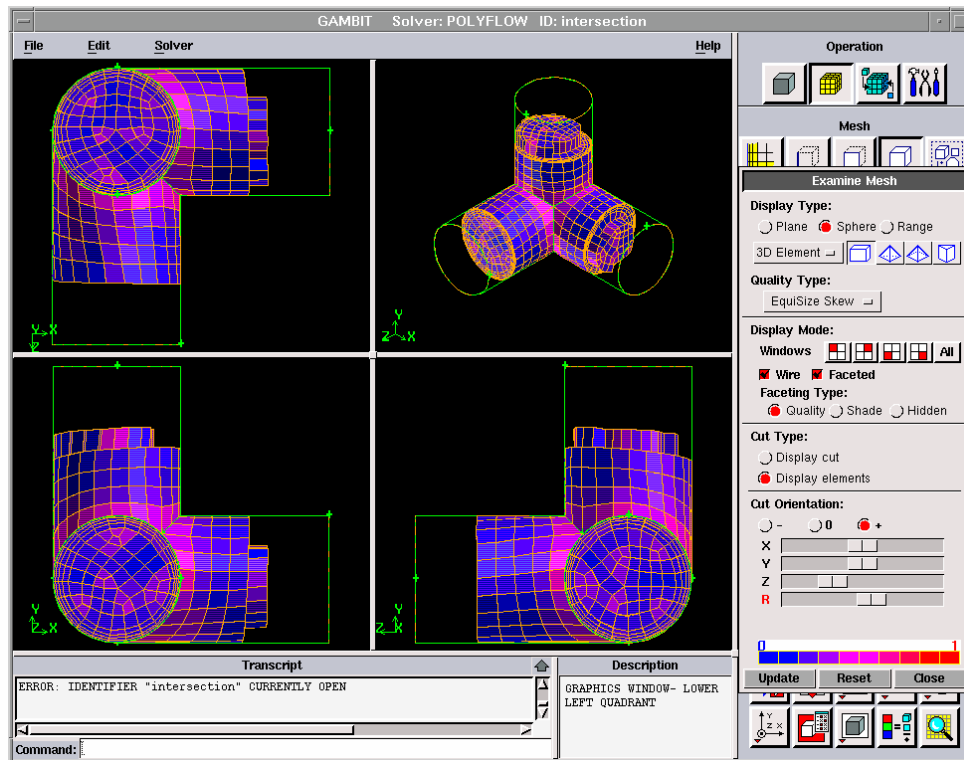

Figure 3-20: Spherical cut centered in the x, y, and z directions
- g) Move the **Y** and **Z** slider boxes to center the spherical cut in the y and z directions in the graphics window. The graphics window display is shown in Figure 3-20.